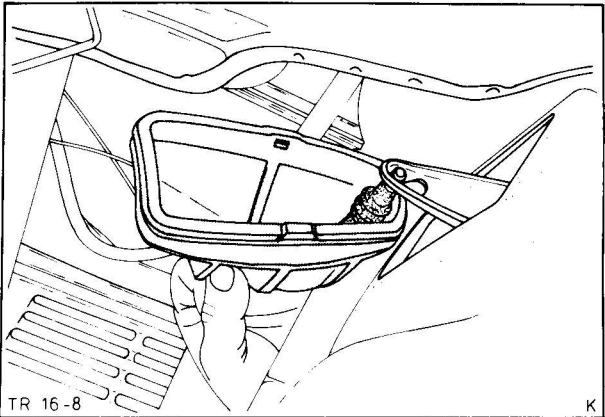

Fig. 15. Attach clutch cable to release lever
22. Attach clutch cable to release lever. To do this, pass clutch cable through guide in the clutch housing and slip on gaiter. Draw the cable out of its sheath, hold with pliers and connect to release lever. Fit gaiter in place, Fig. 15.